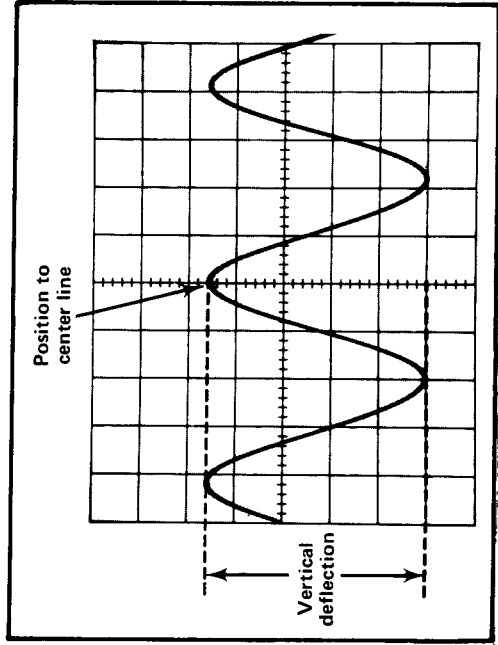

Fig. 2. Measuring peak-to-peak voltage of a waveform.
6. Turn the vertical POSITION control so the lower portion of the waveform coincides with one of the graticule lines below the center horizontal line, and the top of the waveform is on the viewing area. Move the display with the horizontal POSITION control so one of the upper peaks lies near the center vertical line (see Fig. 2).
Example. Assume a peak-to-peak vertical deflection of 4.6 divisions (see Fig. 2) with a VOLTS/DIV switch setting of .5.